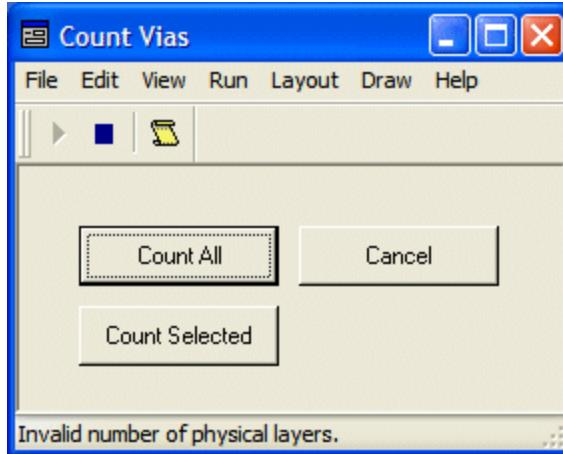

Figure 4-28. By default, the form presents users with the Stop button.
- 2) Not surprisingly, even when the IDE is in its run mode, the form still displays the **Stop** icon that will return the IDE into its edit mode as illustrated in Figure 4-28.